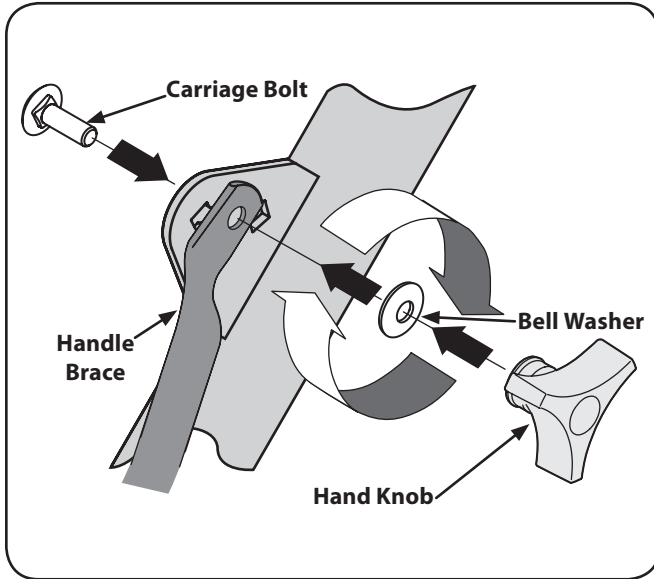

Figure 3-4
7. Tighten the bolt securely after securing the handle brace. See Figure 3-4.
9. Insert the carriage bolt through the welded bracket on the handle, bell washer, handle brace and into the hand knob. See Figure 3-4.
10. Select one of the three handle height positions (three notches in the welded handle bracket) and tighten the hand knob to secure the handle in the desired position. See Figure 3-4. Return to the lower handle and tighten the hex bolt securely.